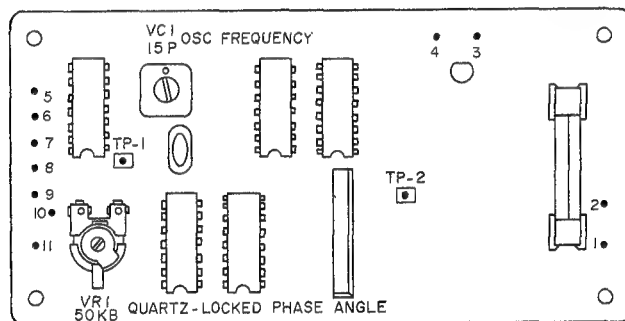

Fig. 20
- Depress the QUARTZ LOCK button in (ON).
- Adjust VR1 until the width of the upward pulse above 2 to 4V is  $22 \pm 2$  msec when the stroboscope pattern is seen standing still, as Fig. 20.